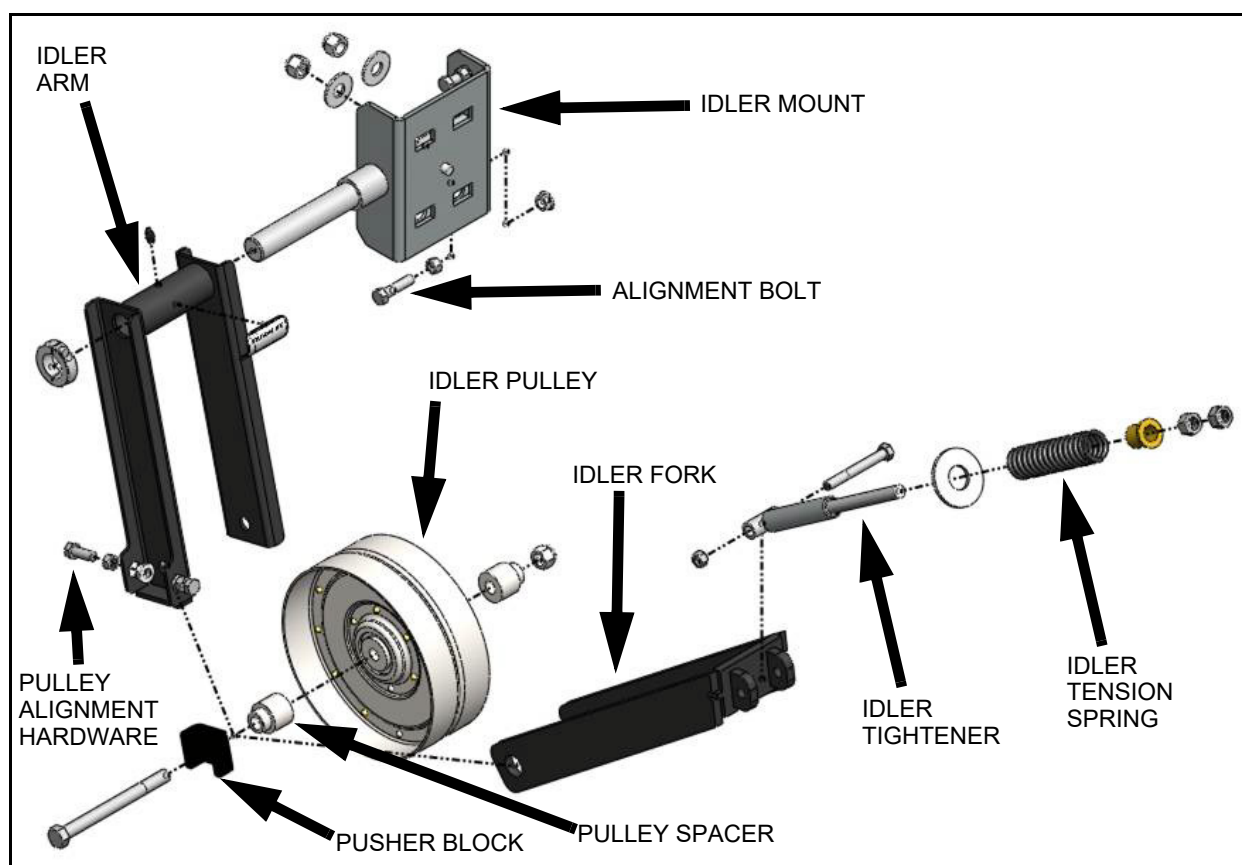

Figure 6.13 Idler Assembly
4. Loosen and remove the spring tightener nuts, spring assembly, and idler tightener (see Figure 6.13).